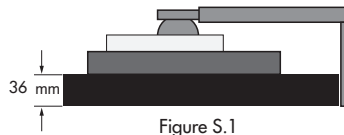

Figure S.1
3. Place monitor face down on a non-abrasive surface. (Place the screen on a 36 mm platform so that the stand is parallel with the surface) (Figure S.1).